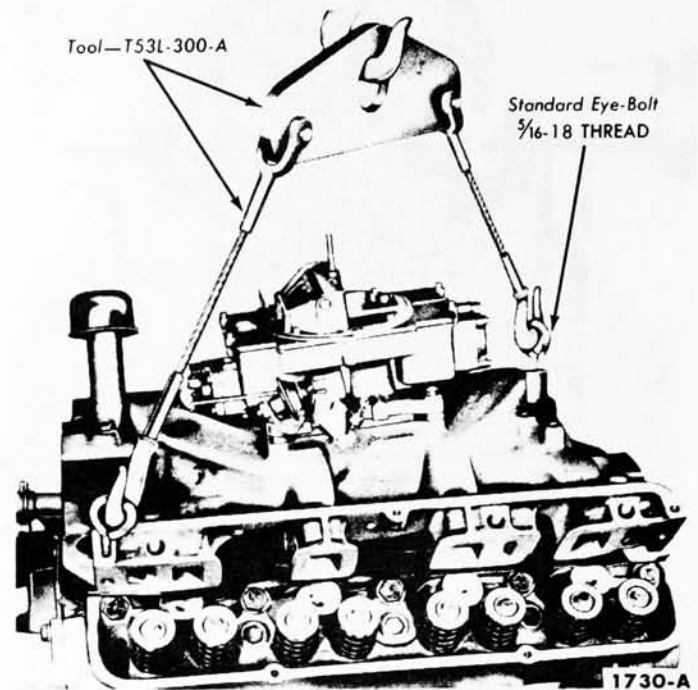

FIG. 17—Intake Manifold Removal or Installation
3. Remove the distributor hold down bolt and clamp and remove the distributor. Remove the 10 intake manifold retaining bolts. Install standard eye bolts with 3/16-18 threads in the left front and right rear rocker arm cover screw holes and attach the engine lifting sling (Fig. 17). Raise the manifold and carefully remove it from the engine. Remove the intake manifold gaskets and seals.